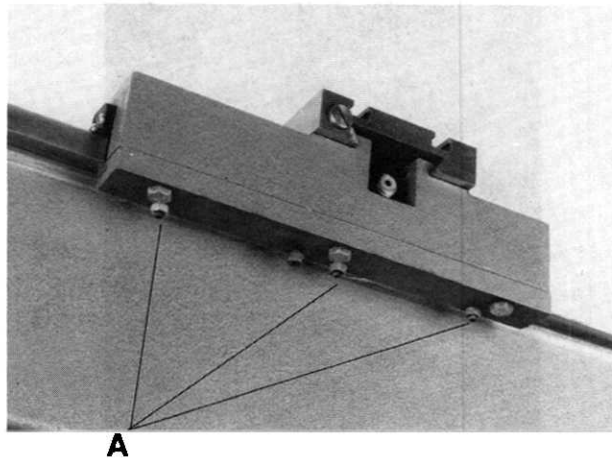

Figure 1
2. Next, loosen, but do not remove, the setscrews and checknuts (located at "A" in Figure 1) holding the gib to the carriage. The setscrews will require a 3mm Allen wrench for removal, and the checknuts will require a 10mm wrench.